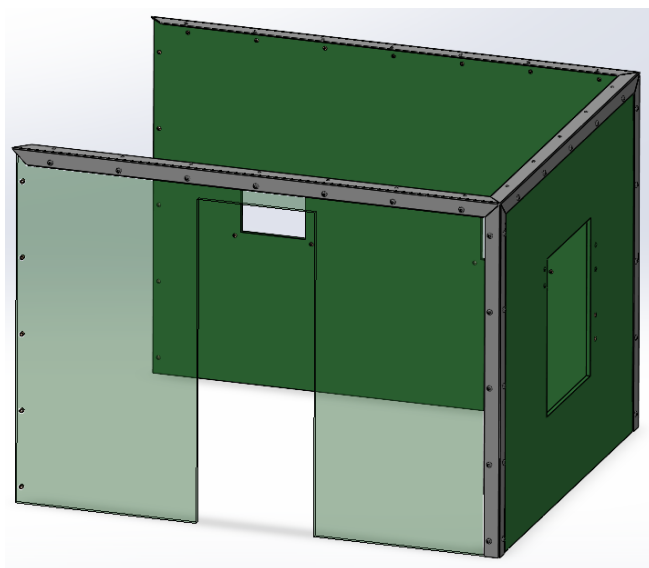

Fig. 9. Top length trim installed on the left and right acrylics.
3. Screw the top length aluminum trims onto the right and left acrylics, see Fig. 9.